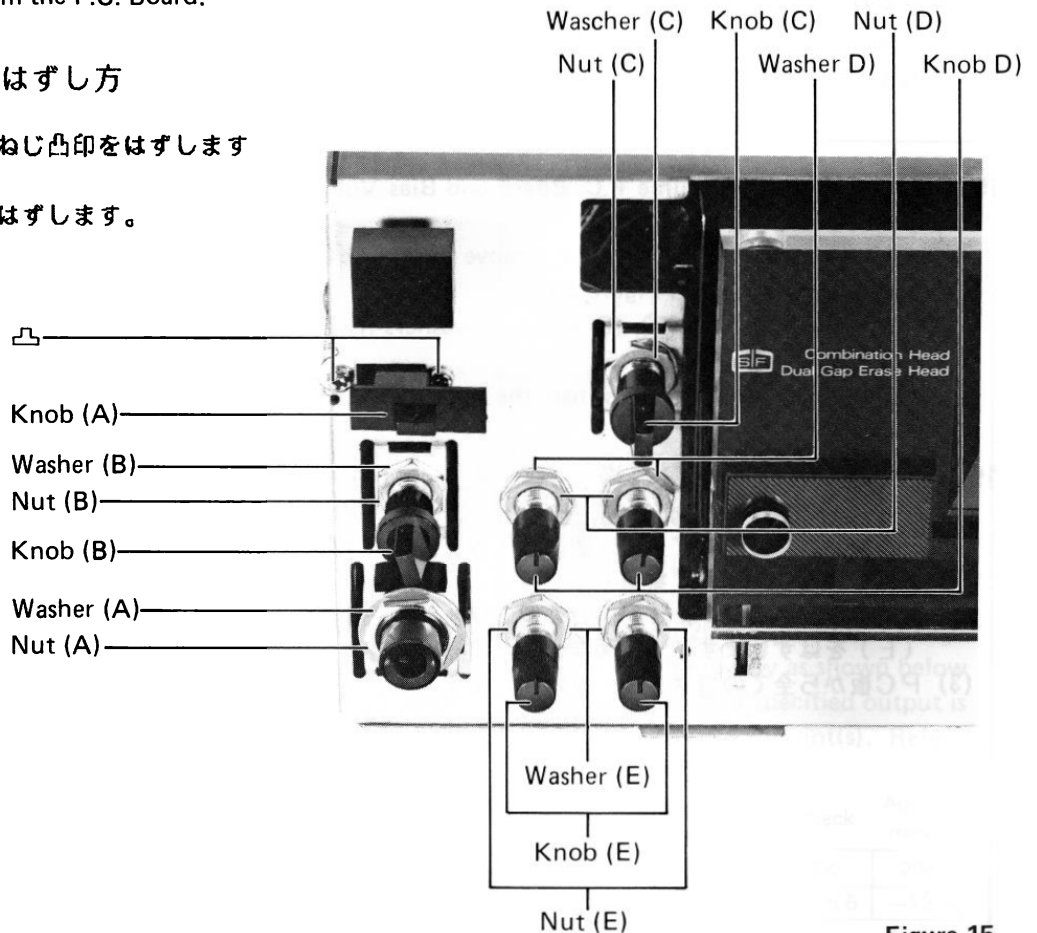

Figure 15
- (1) After removal of Front Pnale, remove knob (A) and remove two screws marked "凸" as shown in Figure 15.
- (2) Disconnect all connectors from the P.C. Board.
- (1) After removal of front panel, remove two rotary knobs (B), (C) as shown in Figure 15.
- (2) Remove two nuts (B), (C) and two washer (B), (C) as shown in Figure 15.
- (3) Disconnect all connectors from the P.C. Board.
- (1) After removal of front panel, remove the nut (A) and washer (A) as shown in Figure 15.
- (1) After removal of front panel, remove four knobs (D), (E) as shown in Figure 15.
- (2) Remove four nuts (D), (E) and four washers (D), (E) as shown in Figure 15.
- (3) Disconnect all connectors from the P.C. Boards.